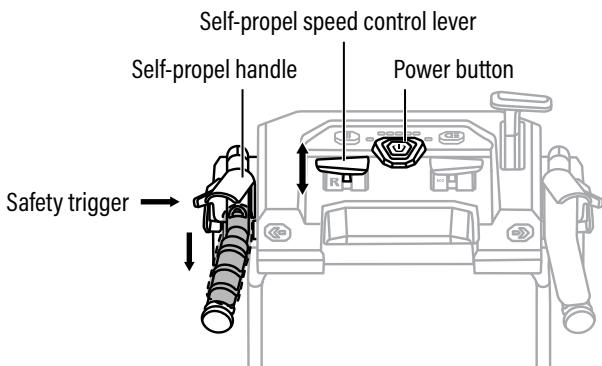

Fig. 7
1. Without starting the auger rotation, press the power button. (Fig.7)
2. Press the safety trigger inward and press the self-propel lever down to the handle, and the snow thrower begins moving. (Fig.7)
5. First release the self-propel handle to stop the blower from moving, pull the self-propel speed control lever toward the back of the snow blower, push the safety trigger inward, then press the power button and hold the self-propel handle. (Fig.7)